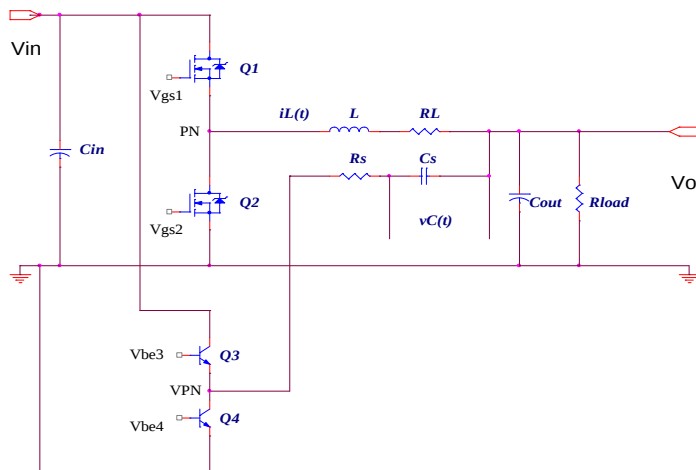

Fig.1 The Basic Structure of Combi-Sense.
The basic structure of the Combi-Sense is shown in Fig.1. Where R_L is the equivalent resistance of the output inductor. The added R_s and C_s form the RC branch in "parallel" with the output inductor for inductor current sensing. This branch works with a small signal totem pole (Q3 and Q4) integrated in SC4510 in order to improve the signal-to-noise ratio. The base signals Vbe3 and Vbe4 are designed to closely follow the gate signals Vgs1 and Vgs2, respectively. Ideally, the leading and falling edges of the Virtual Phase Node (VPN) follow that of the Phase Node (PH) when Q1~Q4 switch in perfect synchronism.
When Q1/Q3 turn ON and Q2/Q4 turn OFF, the equivalent circuit of Fig.1 is shown in Fig. 2a). Where, R_{ds1} is the on-resistance of the top MOSFET. The two branches, consisting of $\{(R_{ds1}+RL), L\}$ and $\{R_s, C_s\}$, are in parallel. The DC voltage drop $(R_{ds1}+RL)I_o$ equals V_{Cs} . In this way, the output current is sensed from V_{Cs} when $(R_{ds1}+RL)$ is known.
When Q1/Q3 turn OFF and Q2/Q4 turn ON, the equivalent circuit of Fig.1 becomes the sub-circuit as shown in Fig. 2b). Where R_{ds2} is the channel resistance of the bottom MOSFET. In this case, the branch $\{R_s, C_s\}$ is in parallel with $\{(R_{ds2}+RL), L\}$ and $V_{Cs}=(R_{ds2}+RL)I_o$.
In SC4510, the current limiting is performed on cycle-by-cycle basis. When the voltage difference between CS+ and CS- exceeds 65 mV, the top MOSFET duty ratio is clipped in order to limit the output source current. Similarly, when the voltage difference between CS- and CS+ exceeds 113 mV, the bottom MOSFET duty ratio is clipped in order to limit the sink current. For the configuration in Fig.1, the convertor output current limit is set around